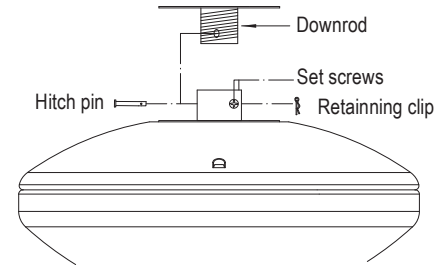

Fig. 6
**Step 4.** Route wires exiting from the top of the fan motor through the coupler cover, canopy cover, canopy, decoration ring and then through the ball/downrod. (Fig. 6)
**Step 5.** Align the holes at the bottom of the downrod with the holes in the collar on top of the motor housing (Fig. 6). Carefully insert the hitch pin through the holes in the collar and downrod. Be careful not to jam the pin against the wiring inside the downrod. Insert the locking pin through the hole near the end of the hitch pin until it snaps into its locked position, as noted in the circle inset of Fig. 6.
**Step 6.** Tighten two set screws on top of the fan motor firmly. (Fig. 6)